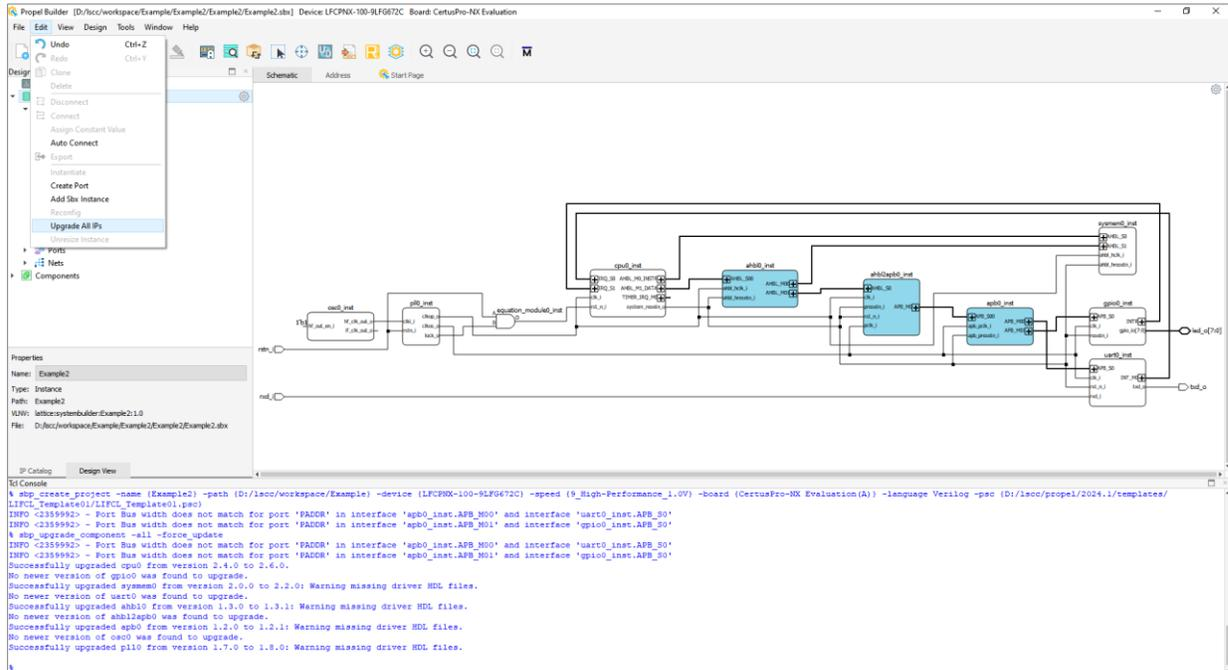

Figure 2.46. Upgrade All IPs
8. (Optional) About the Processor section (Figure 2.46):
- (Optional) Propel Builder also supports to update all IPs. Choose **Edit > Upgrade ALL Ips**. Wait a few seconds, depending on how sophisticated the design is, to see the result (Figure 2.46).